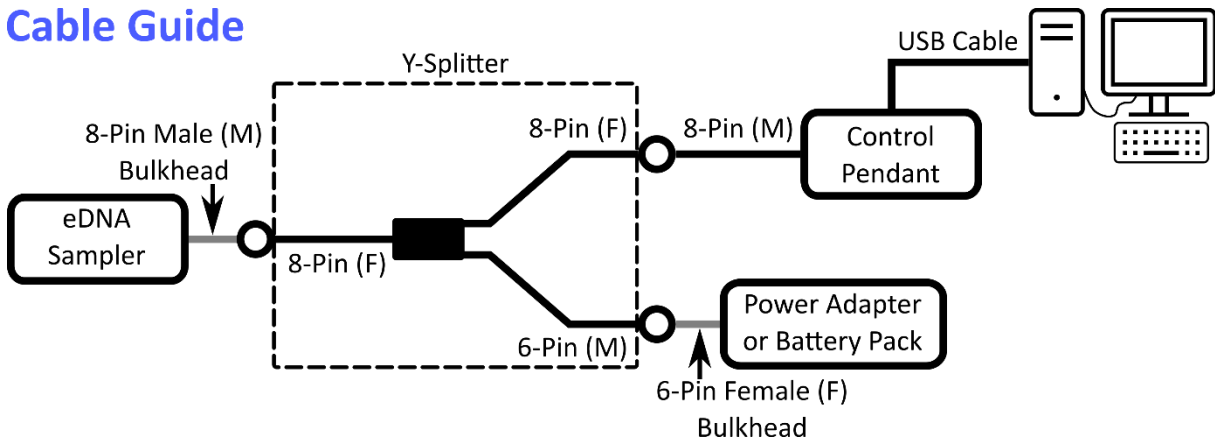

Figure 1: Cable Guide
- 4) Locate Y-Splitter Cable. Connect Y-Splitter Cable to Sampler (note above diagram in **Figure 1**):
- 5) Install each of the four (4) fluid reservoirs (sold-separately). Refer to the user manual for fluid installation [**Section 3.2.1**].